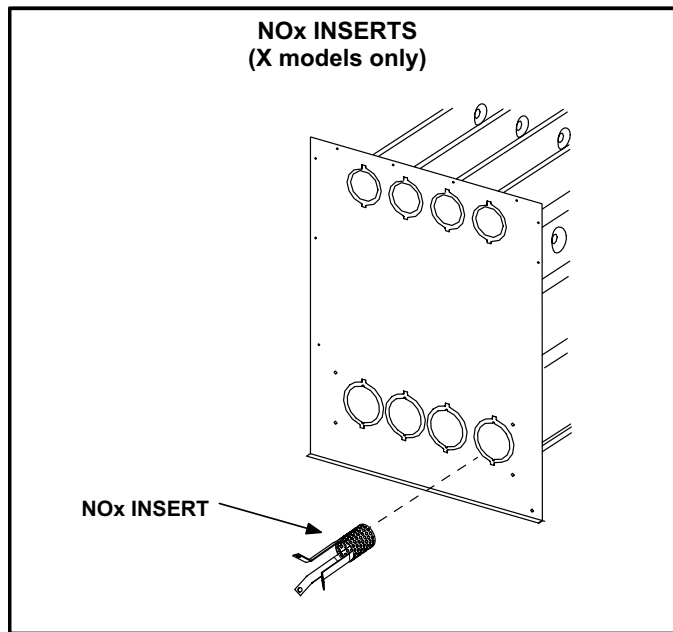

FIGURE 31
- 7 - **NOx units only** - Remove the three screws that attach the NOx insert to the corbel at the entrance to each heat exchanger section. Carefully remove the NOx insert from each section. See figure 31.
- 15 - **NOx Units** - Reattach the NOx inserts to the corbels at the entrance to each heat exchanger opening. See figure 31.